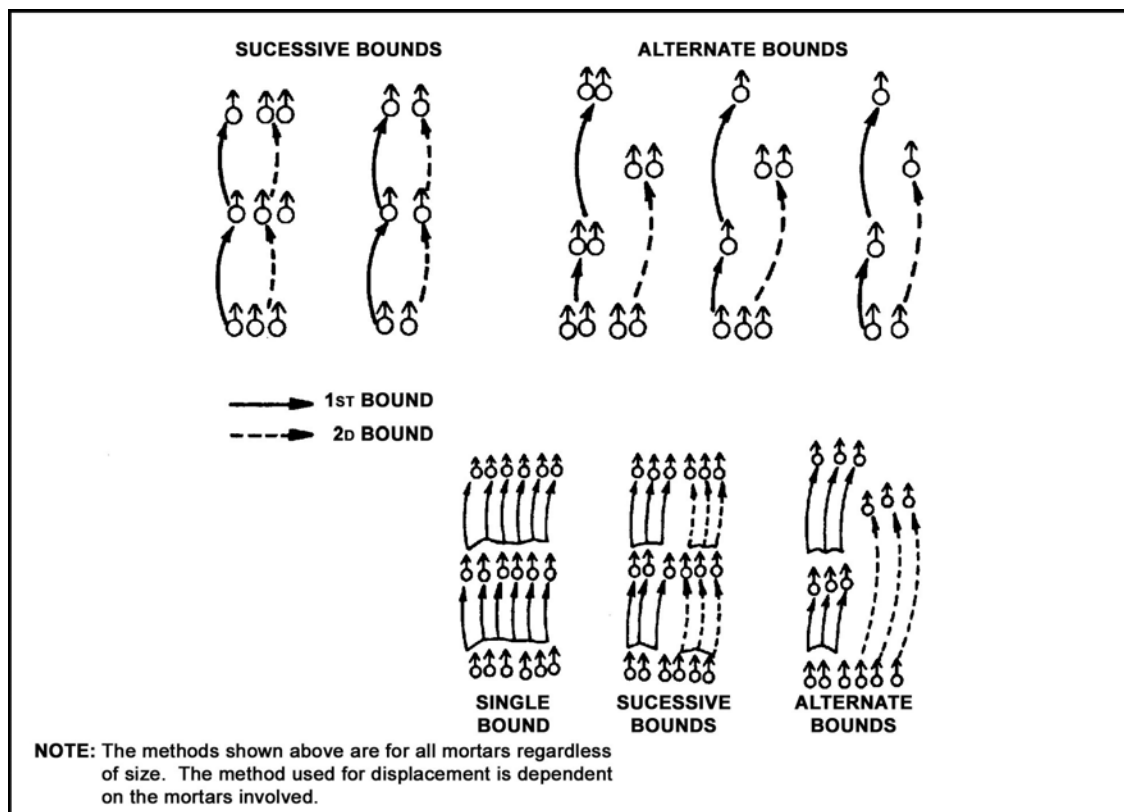

Figure 1. Displacement Methods
2. **Displacement by sections.** This method requires one section to remain in position while the other section moves. When the displacing section is in position and ready to fire, the remaining section displaces. Depending on the platoon's organization, each section displaces with a portion of the platoon fire direction center (FDC) or with its organic FDC. Displacing by sections is done when continuous fire support from the mortars is required. Since one section must provide fire support while another section moves, this technique is slower than displacement by platoon. Displacement by sections is the technique most often used by platoons with four or more mortars (Figure 1).